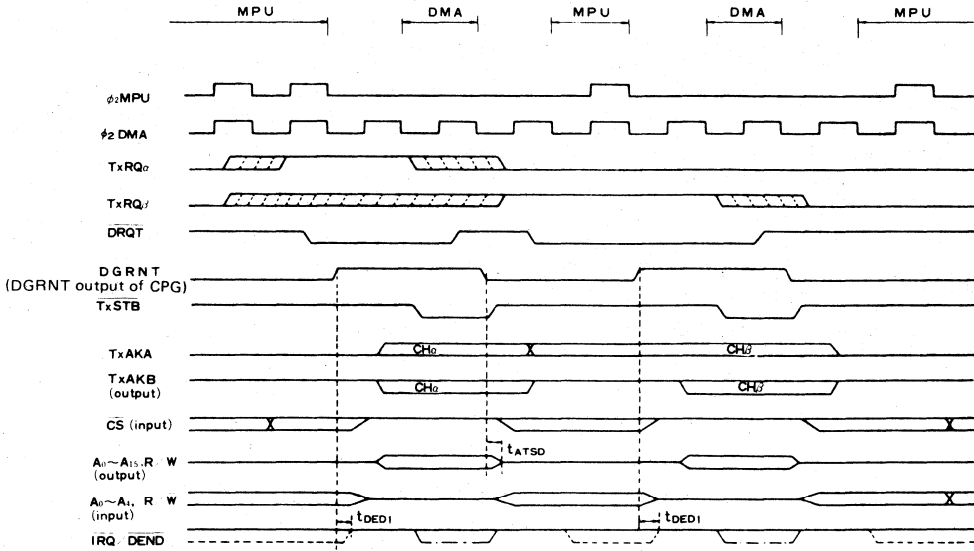
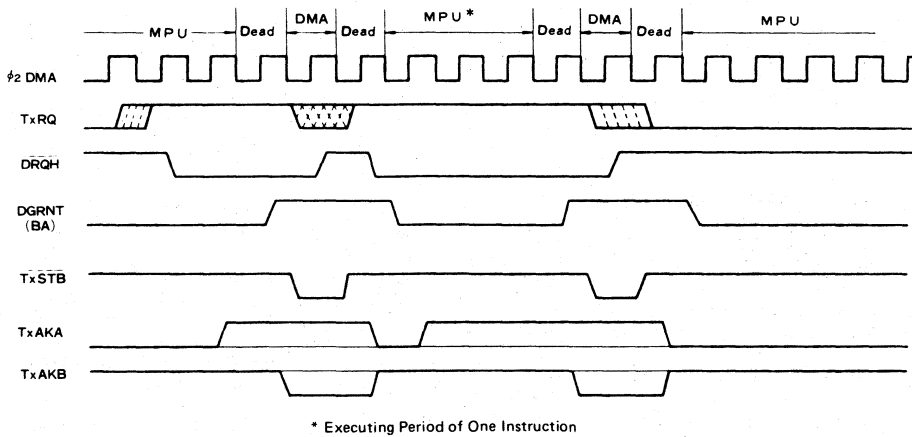

Figure 24 Channel Change (TSC Mode  $\rightarrow$  TSC Mode)
Figure 26 Successive 2-byte Transfer of One Channel (HALT Cycle Steal Mode)
- (2) From TSC mode to TSC mode (Fig. 24)
The timing in the case where the next byte is transferred without changing the channel is shown in Fig. 26. This is the case of HALT → HALT mode. In this case, the bus control returns to MPU, before the next byte is transferred. In the case of TSC → TSC mode, its timing is almost the same as than in Fig. 24, that is, after 1-byte transfer has completed, MPU executes the Instruction Cycle for one clock and then DMAC executes 1-byte transfer again.